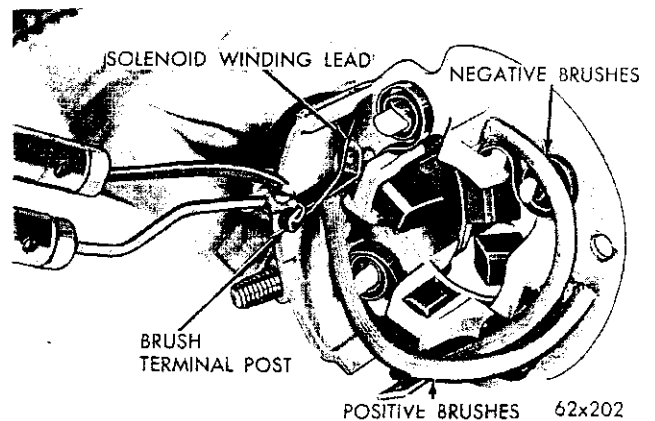

Fig. 24—Unsoldering the Solenoid Winding Lead
(9) Unsolder the solenoid winding from the starter brush terminal (Fig. 24).